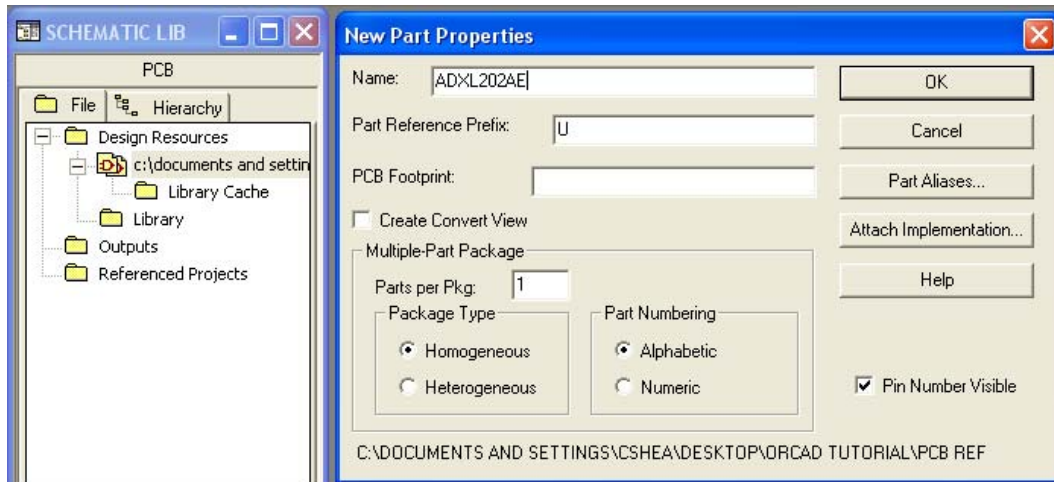

Figure 3.1: Creating a New Part
8. Click → **OK** (See Figure 3.1 below)